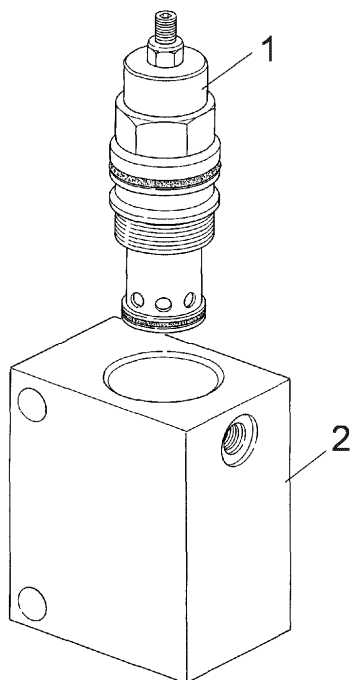

Fig. 7C.33. Exploded View of Priority Valve
4. Unscrew two bolts (3) and separate priority valve (2) from LH fender bracket.
5. Disconnect drain hose (1), and priority valve to transmission hose (4) from the priority valve (2).
7. Remove the pressure regulator (1 Fig. 7C.33) from the valve housing (2). Remove and discard the valve seal kit and replace with new.